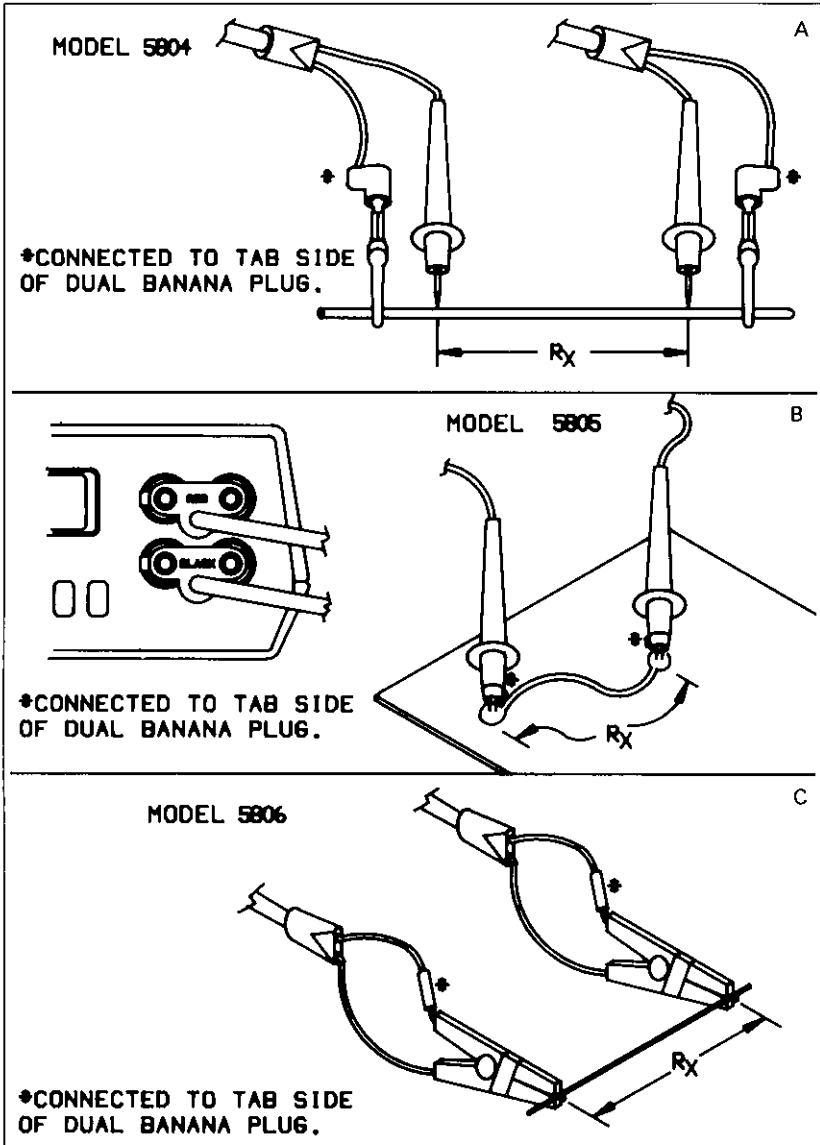

Figure 2-3. Test Lead Connections
Three sets of test leads (Models 5804, 5805 and 5806) are supplied with the Model 580 for making 4-wire resistance measurements (see Figure 2-3). These test leads allow easy connections and probing for accurate measurements. The Model 5806 Kelvin Clip Leads should be used for devices with two leads, the Model 5804 Test Leads for devices with four leads, and the Model 5805 Kelvin Probes on flat surfaces such as printed circuit board traces.
All three test lead sets connect to the Model 580 the same way. The red dual banana plug should be connected to SOURCE HI and SENSE HI and the black dual banana plug to SOURCE LO and SENSE LO (see Figure 2-3). In both cases, the tab side of the dual banana plug should face the SOURCE terminal. Improperly connected test leads will give a zero resistance reading or an overload indication (OL) when connected to the unknown.
The test leads supplied with the Model 580 are marked in order to properly identify the SOURCE and SENSE connections when measuring an unknown. Model 5805 is marked with a tab on its probe that corresponds with the tab on its banana plug. Model 5806 is marked with a heat shrink sleeve on the clip handle that corresponds with the tab on its banana plug. The single banana jack of the Model 5804 corresponds to the tab side of the dual banana plug. When the test leads are connected to the Model 580 as shown in Figure 2-3, the SOURCE HI or SOURCE LO corresponds to the tab on the Model 5805, the heat shrink sleeve on the Model 5806, and the single banana plug on the Model 5804.
The Model 5805 and 5806 test leads measure the resistance present between the two test probes. The Model 5804 test leads measure the resistance present between the SENSE probes (see Figure 2-3).
4. Connect the test leads to the Model 580 and to the unknown (refer to Figure 2-3 for proper test lead connections).